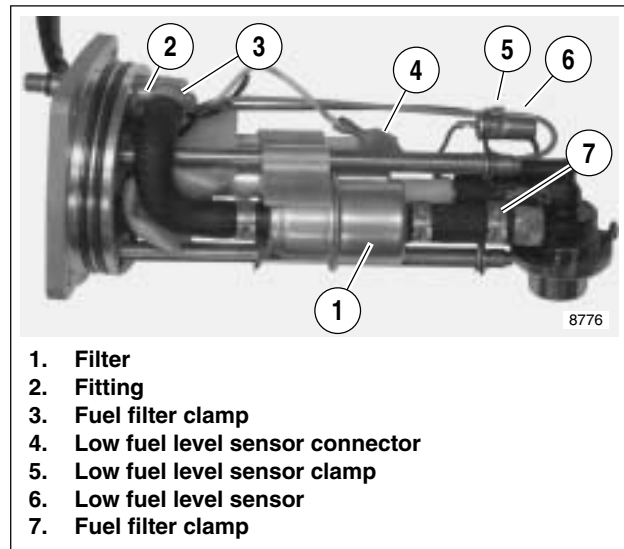
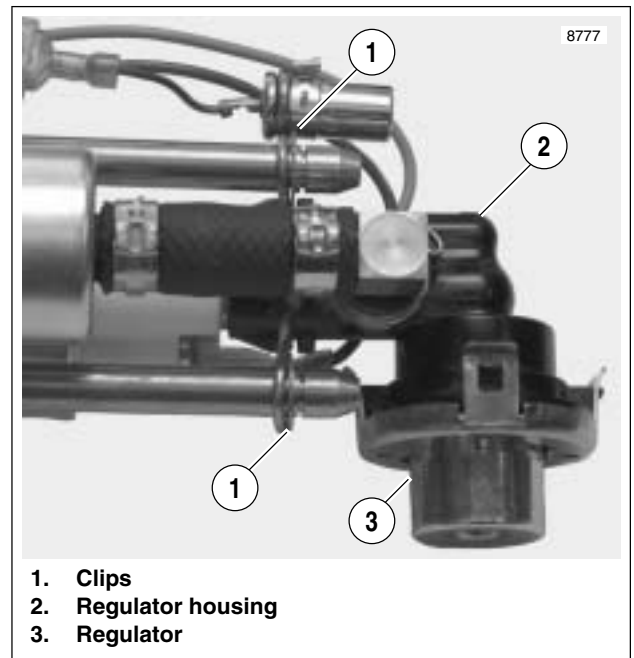
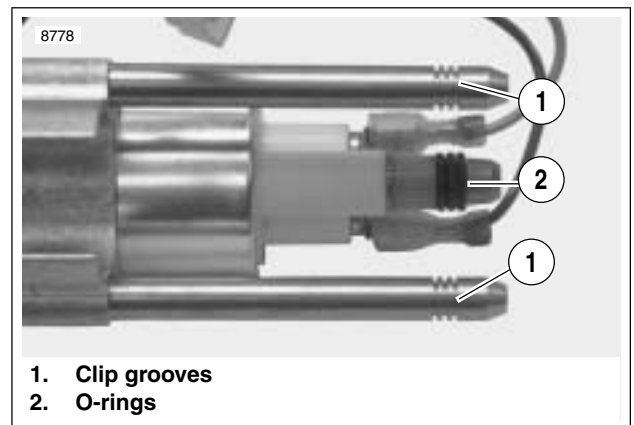

Figure 4-88. Fuel Pump Assembly (right side)
Figure 4-89. Fuel Pump Clips
Figure 4-90. Regulator Housing O-rings
2. See Figure 4-88. Disconnect low fuel level sensor connector (4).
3. Remove clamp (5) securing low fuel level sensor (6) in place.
2. See Figure 4-88. Remove fuel pump clamps (3, 7).
3. See Figure 4-89. Remove fuel pump clips (1).
4. Pull regulator housing (2) from fuel pump assembly.
5. See Figure 4-90. Discard regulator housing o-rings (2).
6. See Figure 4-88. Remove fuel filter hose from fitting (2) and remove fuel filter (1).
8. Install **new** fuel filter hose with 90° bend towards fitting (2).
9. See Figure 4-90. Install **new** regulator housing o-rings.
11. See Figure 4-88. Tighten fuel filter clamps (3, 7).
12. See Figure 4-89. Install clips (1) into center grooves.
2. See Figure 4-88. Remove fuel filter clamp (3). Disconnect hose from fitting (2).
3. See Figure 4-89. Remove clips (1).
9. See Figure 4-88. Attach fuel filter hose to fitting (2) with clamp (3).
10. See Figure 4-89. Install clips (1) into middle grooves.
14. See Figure 4-88. Attach fuel filter hose to fitting (2) with clamp (3).
15. See Figure 4-89. Install clips (1) into middle grooves.